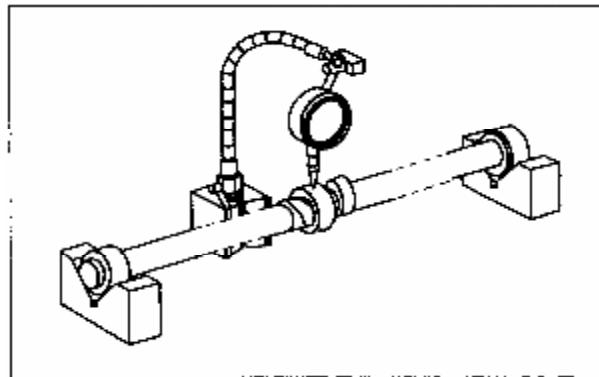

Figure 3-38 Measure Journal Run-out at Middle of Camshaft
3.4.3 Measure journal run-out at middle of camshaft (Figure 3-38), the maximum value should be 0.06mm. Otherwise replace the camshaft.